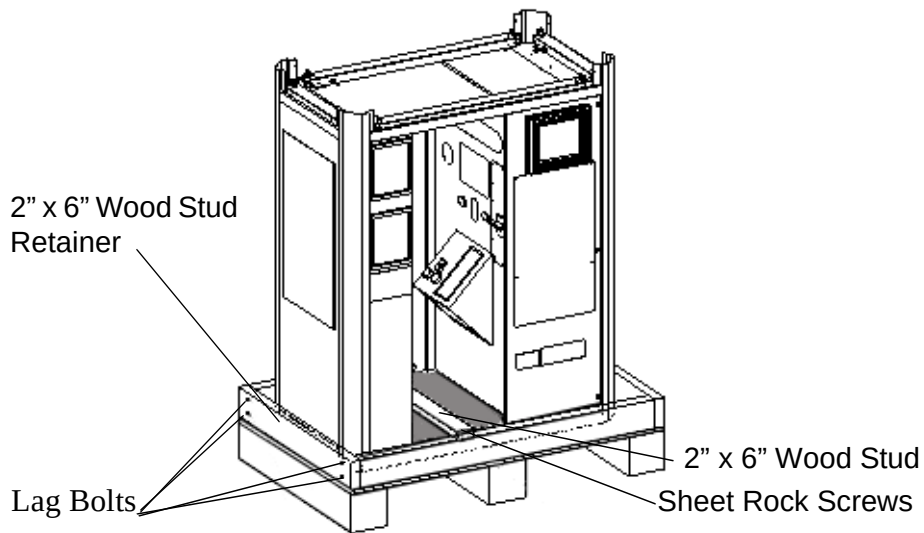

Figure 7. Portrait Studio on Pallet
1. Unscrew the sheet rock screws holding the 2" x 6" wood board in customer area as shown in Figure 7.